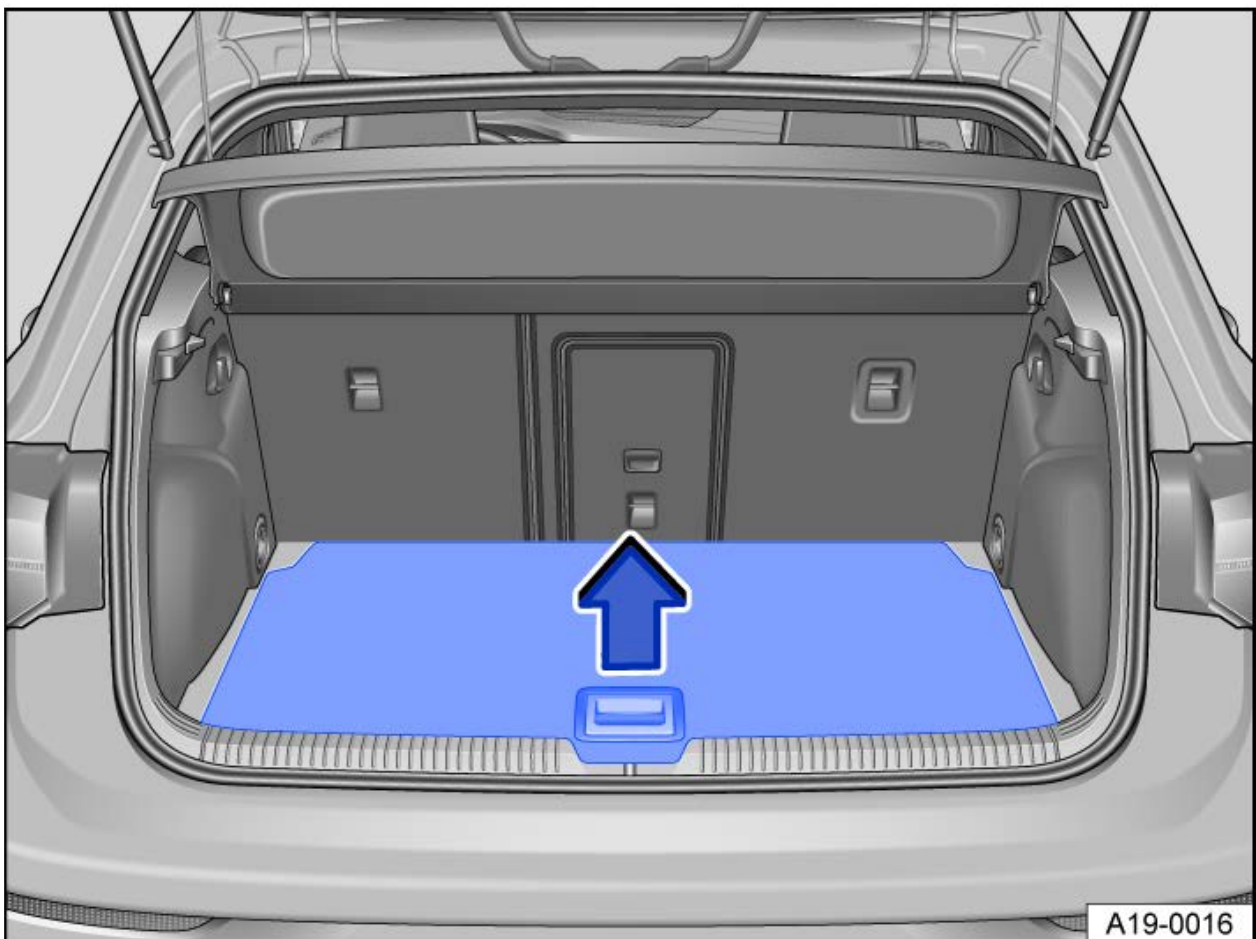
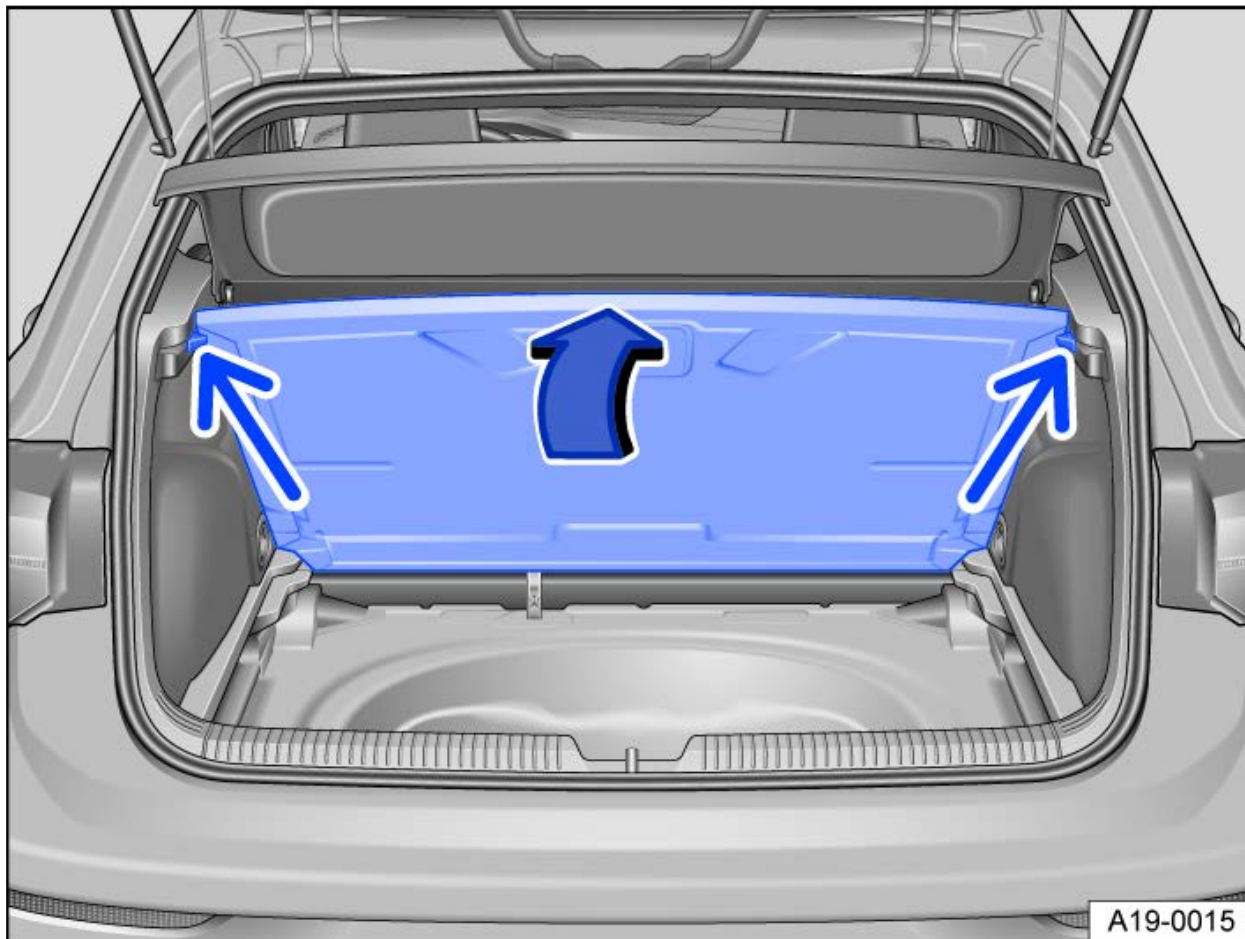

Fig. 1 In the luggage compartment: Lift up the variable luggage compartment floor.
Fig. 2 In the luggage compartment: Variable luggage compartment floor folded up.
- To *open* the luggage compartment floor, take hold of the handle recess in the luggage compartment floor → *fig. 1* and fold the luggage compartment floor upwards until it is held in place by the detents on the sides of the compartment (see arrows) → *fig. 2*.